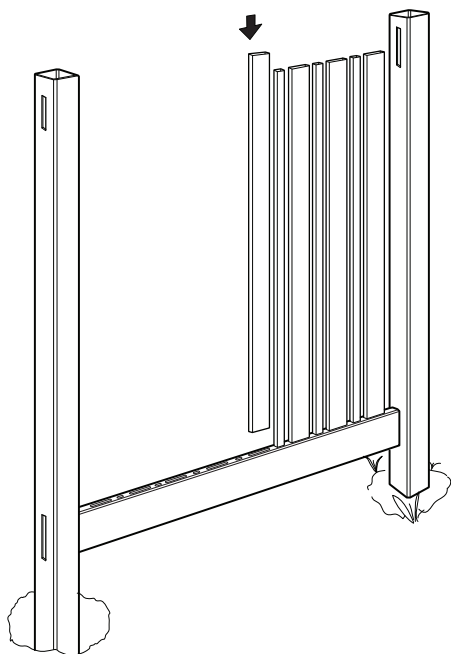

fig. 6
STEP 4 – Slide the pickets into the routed holes in the installed rail (fig. 6).